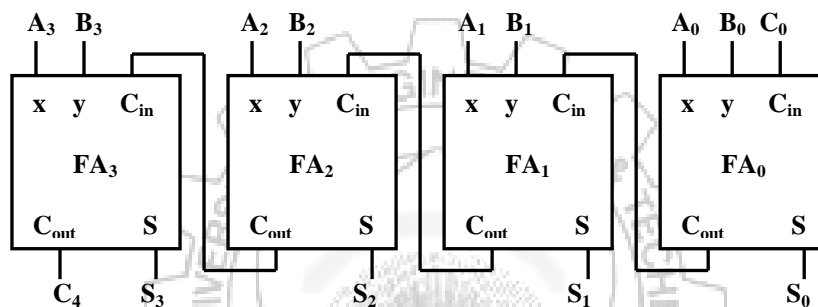

Figure 1: 4-bit Parallel Adder
A 4-bit parallel adder can add two 4-bit values. One way of constructing such an adder is to simply cascade four full adders as shown in figure 1. Here $A_3A_2A_1A_0$ and $B_3B_2B_1B_0$ are two 4-bit values to be added. FA3, FA2, FA1 and FA0 are the four full adders that are cascaded in parallel to provide the desired result. $S_3S_2S_1S_0$ is the final 4-bit sum. C_0 is the external carry input (if any) to the circuit and C_4 is the final carry generated by the 4-bit addition.
3. Make connections among these full adders as shown in figure 1.